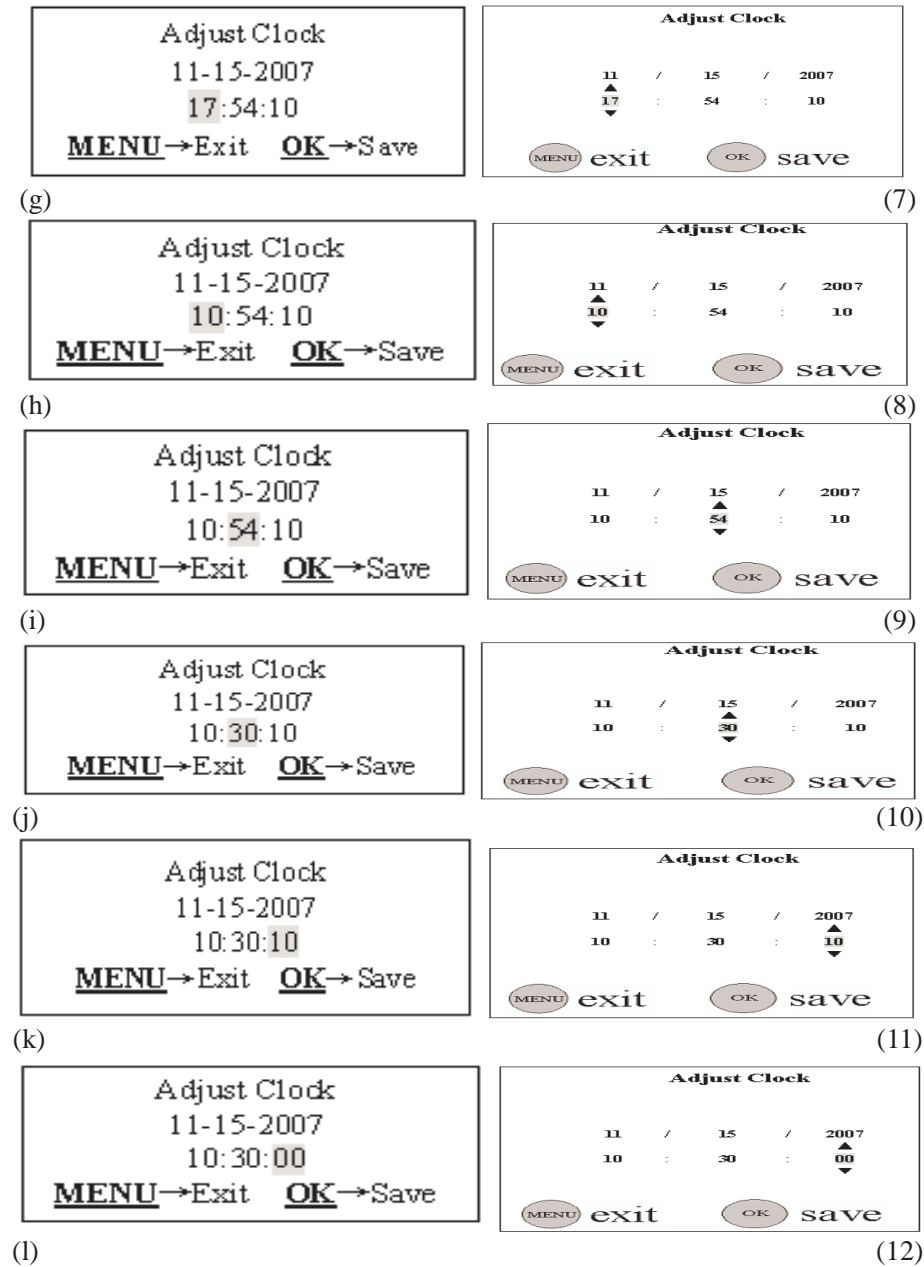

Figure 9: Setting date and time
- 1 Press the UP or DOWN key until “Set Clock” appears, as shown in Fig. 9(a) and 9(1).
- 2 Press the OK key to start setting the month. The current date and time will be displayed and the month will be highlighted, as shown in Fig. 9(b) and 9(2).
- 3 Press the UP or DOWN key to change the month to the desired value. And then press the RIGHT key to set the day. The day will be highlighted, as shown in Fig. 9(c) and 9(3).
- 4 Press the UP or DOWN key until the desired day, as shown in Fig. 9(d) and 9(4).
- 5 Press the RIGHT key to set the year. The year will be highlighted, as shown in Fig. 9(e) and 9(5).
- 6 Press the UP or DOWN key to set the year to the desired year, as shown in Fig. 9(f) and 9(6).
- 7 Press the RIGHT key to set the hour. The hour will be highlighted, as shown in Fig. 9(g)
- 8 Press the UP or DOWN key to the desired hour, as shown in Fig. 9(h) and 9(8).
- 9 Press the RIGHT key to set the minute. The minute will be highlighted, as shown in Fig. 9(i) and 9(9).
- 10 Press the UP or DOWN key to the desired minute, as shown in Fig. 9(j) and 9(10).
- 11 Press the RIGHT key to set the second. The second will be highlighted, as shown in Fig. 9(k) and 9(11).
- 12 Press the UP or DOWN key to the desired second, as shown in Fig. 9(l) and 9(12).